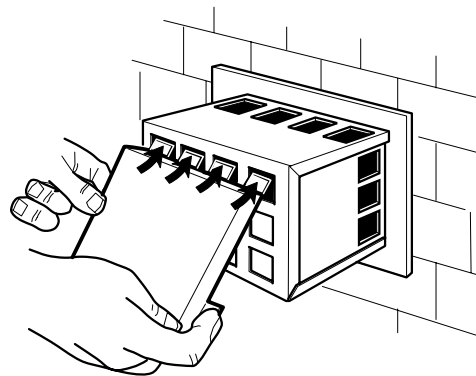
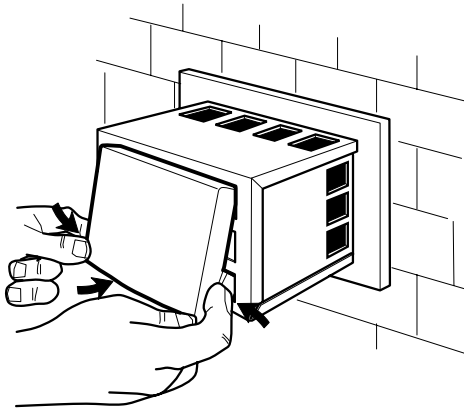

Fig. 28
Fig. 29
- Fit the clip on the deflector plate to the face of the terminal. Locate the lugs on the top edge of the deflector into the upper holes on the front face of the terminal, see Fig. 28. Carefully depress the sides of the deflector and locate the side lugs into the holes in the terminal as shown in Fig. 29.